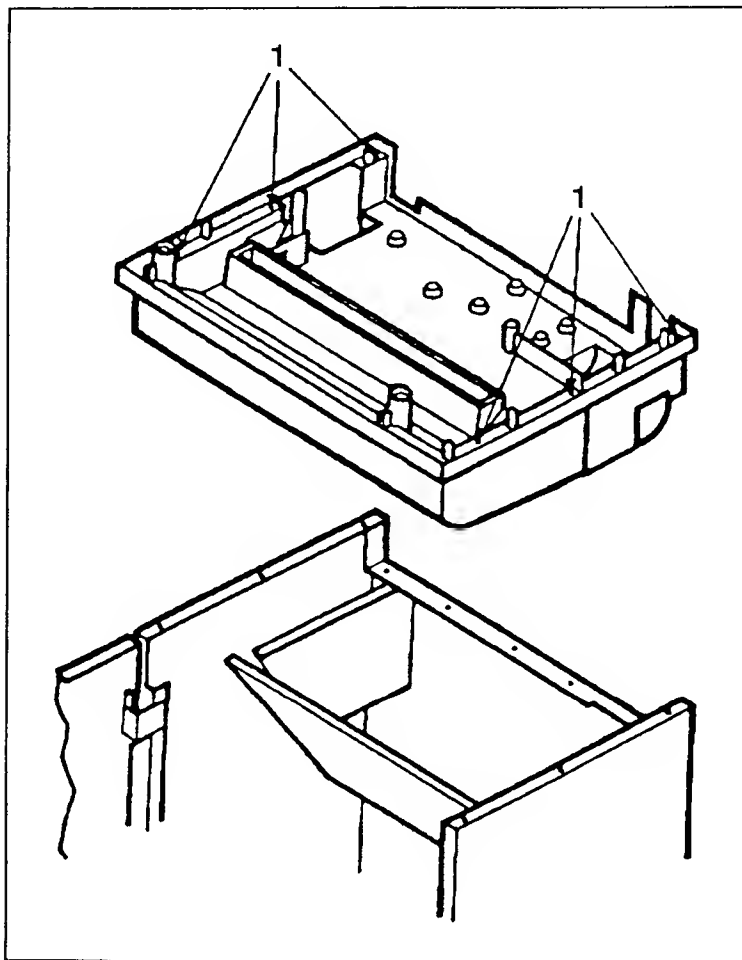

Figure 6-29. Printer Base Removal
- e. Remove the six screws from the base of the printer base (see Figure 6-29).